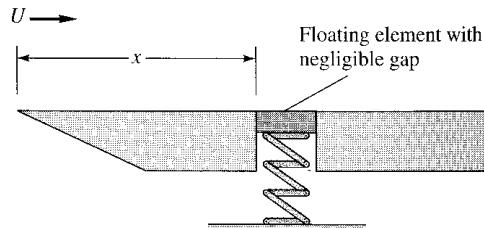

Fig. P7.43
**7.43** In the flow of air at  $20^\circ\text{C}$  and 1 atm past a flat plate in Fig. P7.43, the wall shear is to be determined at position  $x$  by a *floating element* (a small area connected to a strain-gage force measurement). At  $x = 2 \text{ m}$ , the element indicates a shear stress of 2.1 Pa. Assuming turbulent flow from the